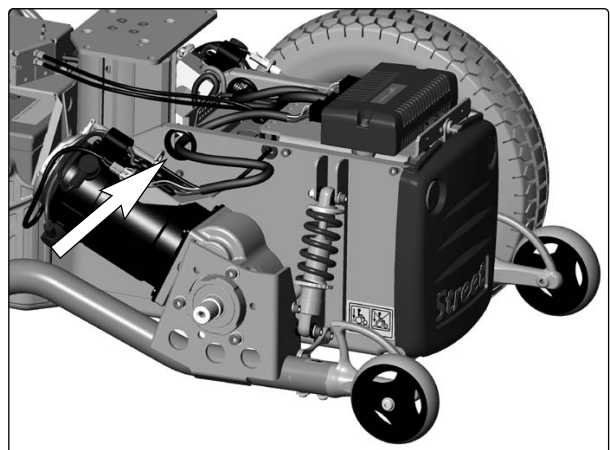

Fig. 48. Cable pass-through.
7. Remove the rubber ring from the cable pass-through hole; see figure 48.
8. Pull the drive motor's connection cable out through the chassis cable pass-through; see figure 48.